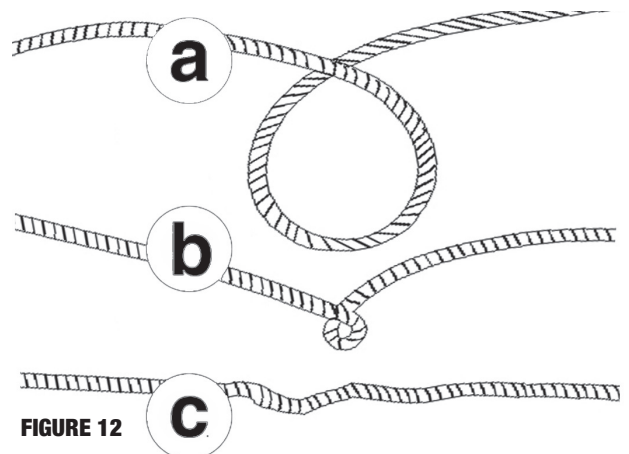

FIGURE 12
- 5. PREVENT KINKS IN WIRE ROPE BEFORE THEY OCCUR. (FIGURE 12)**